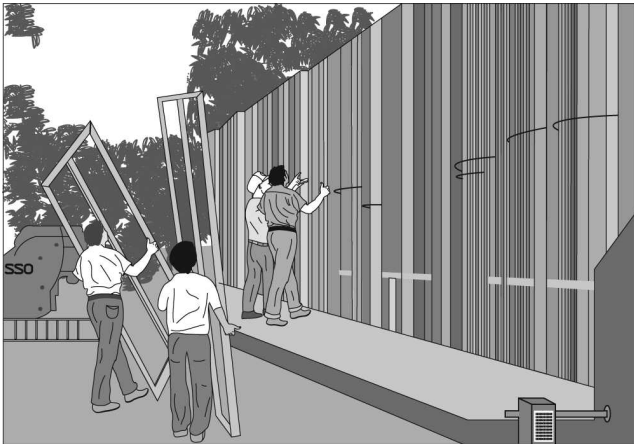

Fig. 21-6 Factory-made panels being unloaded at the construction site. (Steel Framing, Inc.)
5. Panelized walls can be ordered in advance and shipped to the job site for easy installation. This significantly reduces the project construction time (Fig. 21-6).